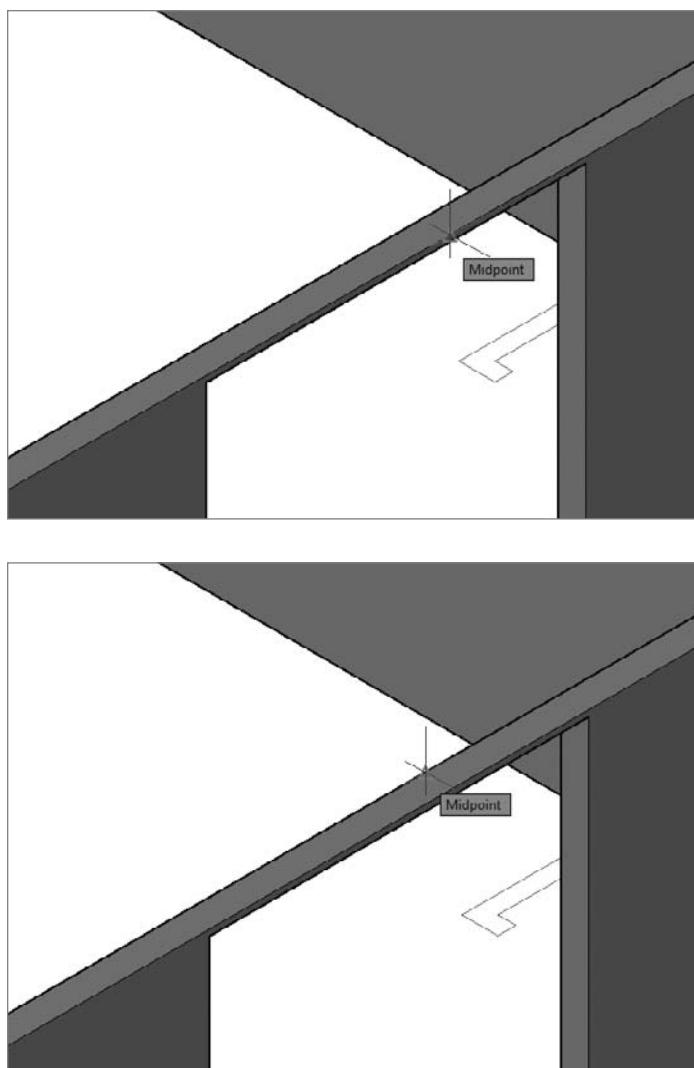

FIGURE 16.79 Selecting the first Slice point (top); selecting the second Slice point (bottom)
At the `Specify start point of slicing plane or:` prompt, use the Midpoint osnap to pick the midpoint of the top of the front wall, as shown in the top image of Figure 16.79.
5. At the `Specify second point on plane:` prompt, pick the midpoint of the top of the back wall, as shown in the bottom image of Figure 16.79.